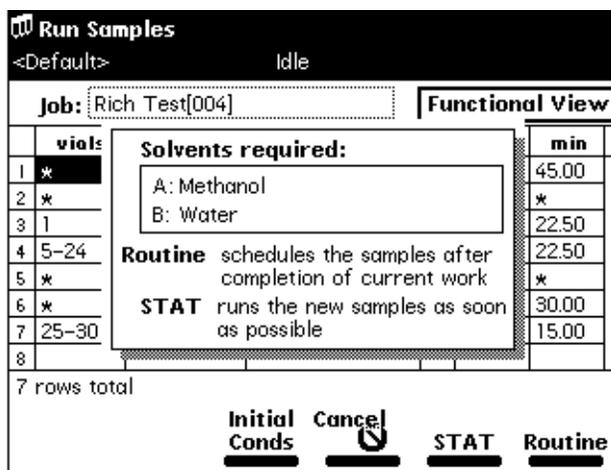

Figure 4-4 Run Samples Screen with Solvents Required Dialog Box
5. Press the **Start** screen key. The Run Samples screen appears with a list of the solvents required for the run (Figure 4-4). Check that you have prepared the Separations Module with the indicated solvent(s).
5. Press the **Start** screen key. A screen appears with a list of the solvents required for the run, as shown in Figure 4-4. Check that you have prepared the Separations Module with the indicated solvent(s).